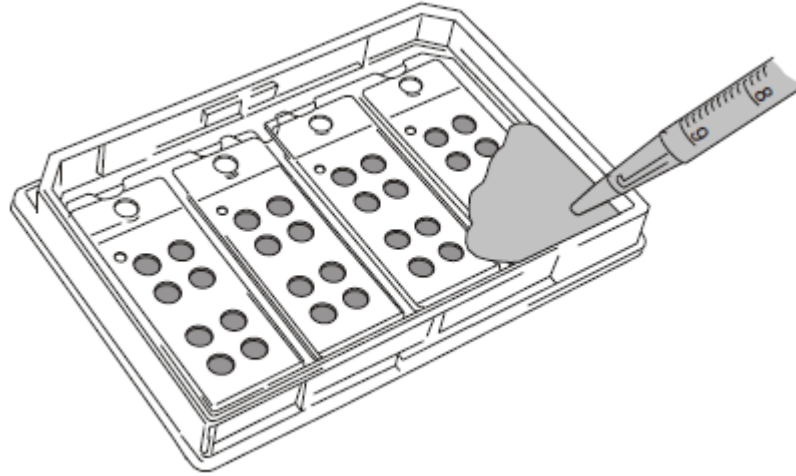

Figure 6
6. After cells attach, flood the tray with 20ml of culture medium as shown in Figure 6. Alternately, plates and coverslips may be flooded with a suspension of cells in medium (20ml-Plates) and incubated to allow cells to attach to coverslips. Cells do not attach to the silicone gaskets.